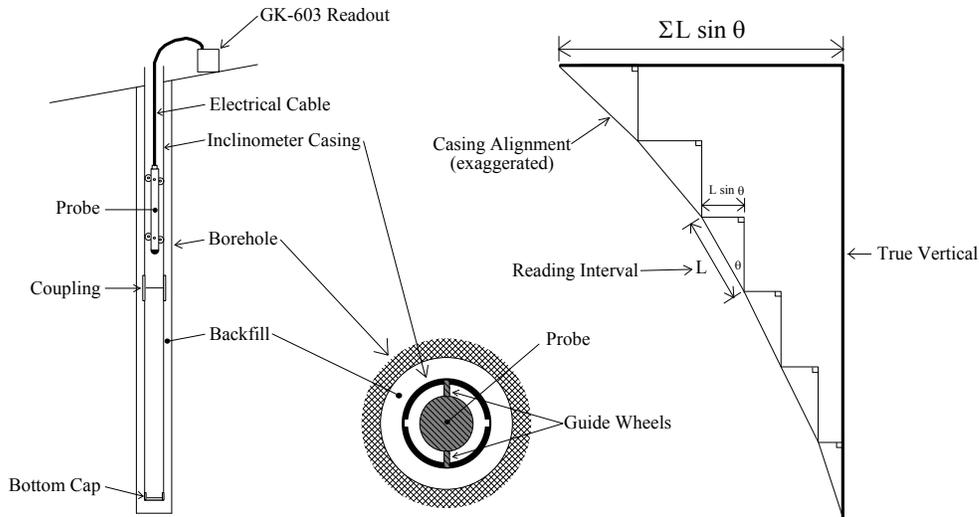

Figure 85 - Inclinerometer Survey Description
Subsequent surveys of the inclinometer casing, when compared with the original survey, will reveal any changes of inclination of the casing and locations at which these changes are taking place. Analysis of the change of inclination is best performed by computing the horizontal offset of the upper wheels relative to the lower wheels which has produced the tilting (θ) over the reading interval (L) of the survey (usually the wheel base of the probe, 2 feet for English systems, .5 meter for Metric). At each position of the inclinometer the two readings taken on each axis (A+, A- and B+, B-) are subtracted from each other leaving a measure of $\text{sine}\theta$. This value is then multiplied by the reading interval (L) and the appropriate factor to output horizontal deflection in engineering units (inches for English, centimeters or millimeters for Metric) (see Figure 85 - Inclinometer Survey Description).